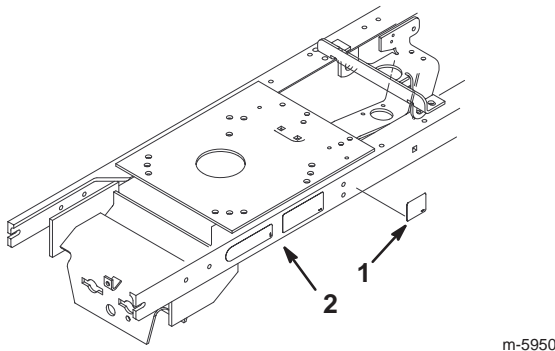

Figure 17
1. Clean an area on the left-hand tractor frame for the decal (Fig. 17)
2. Install the decal on the tractor frame (Fig. 17)